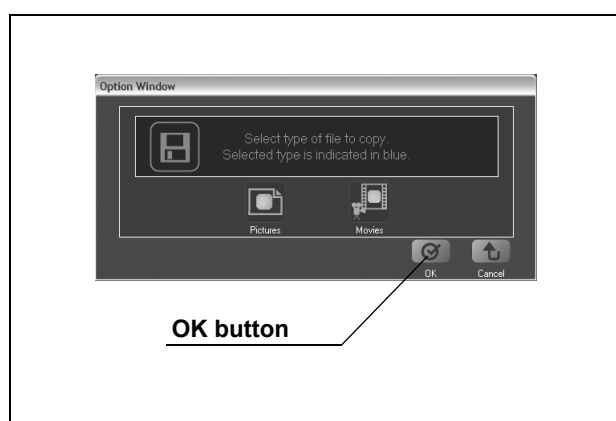

Figure 6.99
6. Click the [OK] button to save the settings and exit the DVD writing options screen (see Figure 6.99).